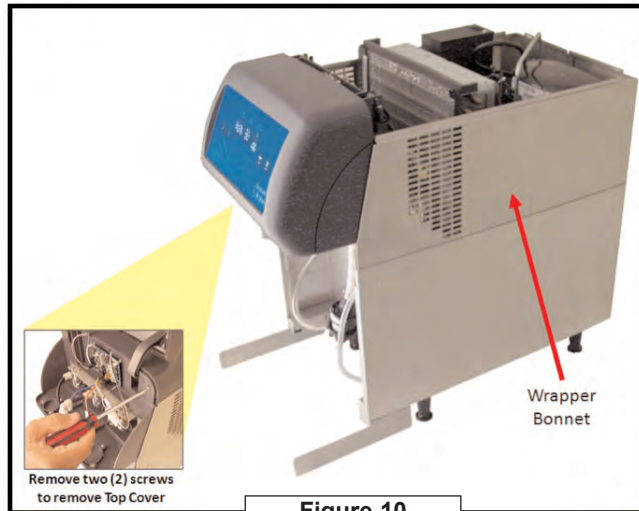

Figure 10
3. Remove splash plate, the plastic and sheet metal bonnet assemblies (Fig 10 & 11).